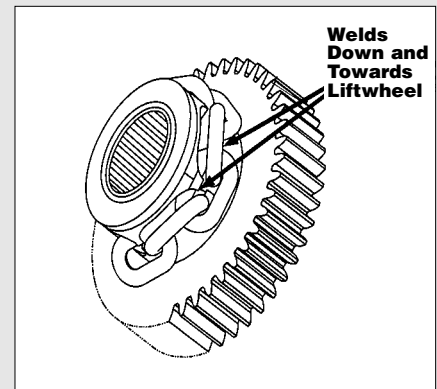

Figure 12C
11. Make sure the upper hook is properly installed as shown in Figure 12C.
3. Feed a short length of soft wire through the opening in the chain guide/stripper (620-192) until it comes out of the hoist. Attach "new" chain to end of the wire which is in the center of the hoist. Position the chain so that the welds will be down and towards the liftwheel as shown above in Figure 12C.